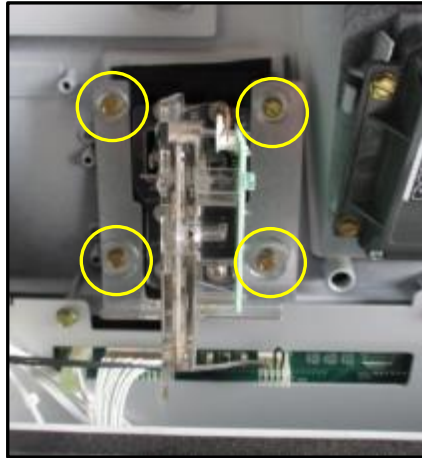
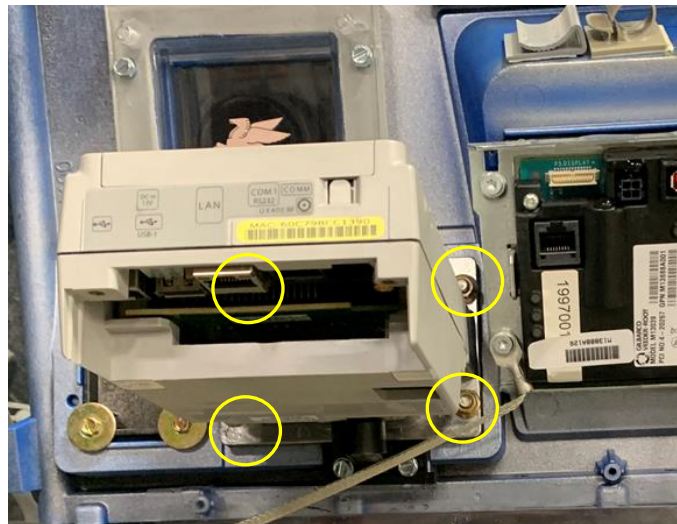

Fig 1.9a – Encore 500S Location of Card Reader plate screws
Fig 1.9b – Encore 700S Location of Card Reader plate screws
11. Remove and discard the four sheet-metal screws that fasten the card reader plate to the door (Encore 500S: #6; Encore 700S: 5/16") and remove the card reader and plate from the dispenser door. The card reader plate can be discarded. It will not be re-installed. (Fig 1.9a and Fig 1.9b)